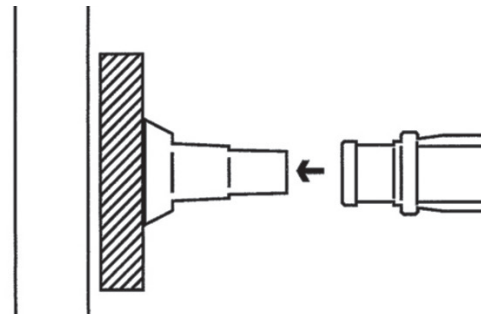

Fig. 7.3
2. Plug the anchor sleeve onto the nailable connector (Fig. 7.3).